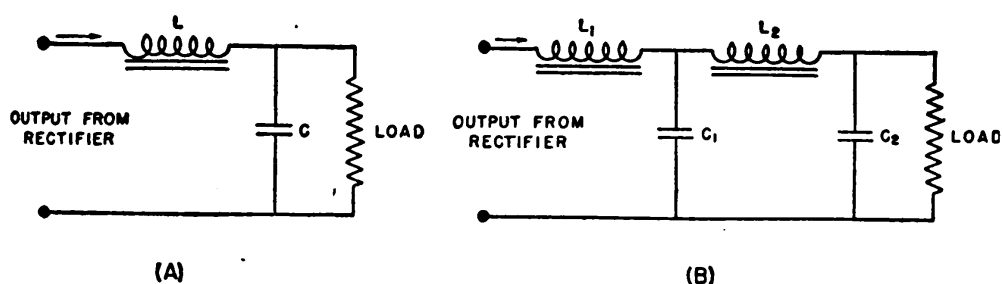

Figure 116.—Choke-input filters.
Look at figure 116 for diagrams of the single-section (A) and double-section (B) CHOKE-INPUT FILTERS.